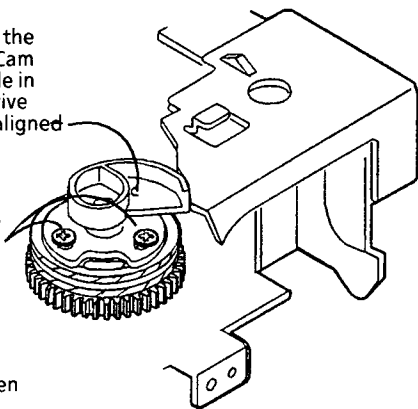

Figure 1. Checking and Adjusting the Mirror 4/5 Cam
1. Adjust the Mirror 4/5 Cam (Figure 1).